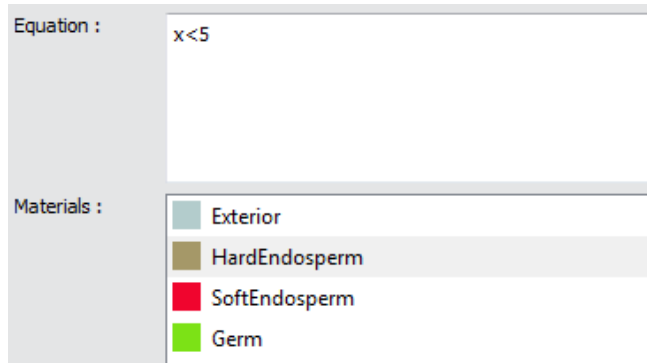

Figure 11.27: Equation Mode
- *Equation*: The equation mode lets you select any element of a given material based on a given equation (Figure 11.27). The vertex components are accessed through X, Y, and Z variables. A triangle is selected if all three vertex positions match the equation condition. For example, the